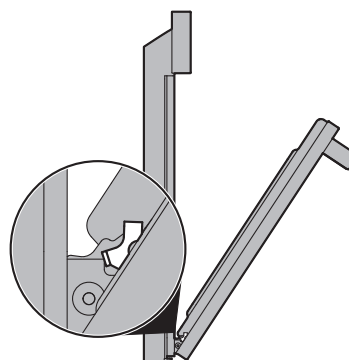

Figure 15: Removal position
3. Grasp the door by the sides, and close the door until the door frame makes contact with the unlocked hinges (Figure 15).
2. Hold the oven door at the same angle as the removal position (Figure 15). Carefully insert the hinge levers into the oven frame until you feel the hinge levers are seated into the hinge notches. The hinge arms must be fully seated into the hinge notches before the oven door can be fully opened.